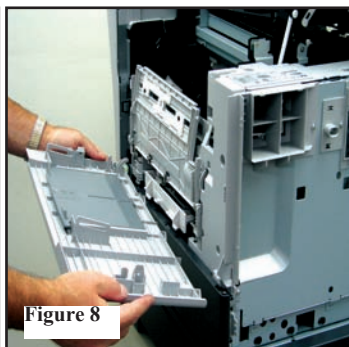

Figure 8
- 11 b. Remove door by sliding toward the rear or right. (Figure 8)